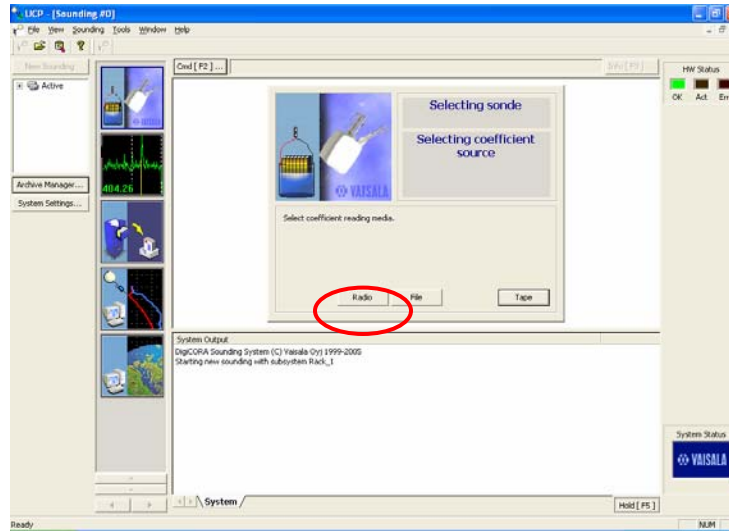

Figure 5
- 5) Click on “Radio” on the screen as shown in Figure 5.